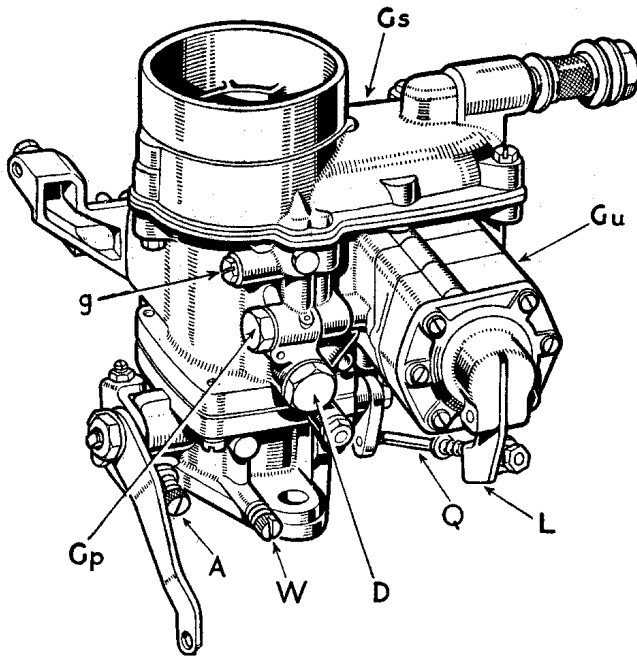

Fig. 19. Carburettor
Prior to making this adjustment it is important to ensure that the engine is in good mechanical condition; the compressions should be equal, the ignition system in order and the inlet manifold free from air leaks. The throttle "pull-off" spring must pull the throttle right back to its stop, i.e., closed position; also make sure that the volume control screw (W) has not been broken or distorted by over-tightening, in which case a replacement must be obtained. (Fig. 19).
It is most unlikely that trouble will be experienced with blocked jets, but Fig. 19 will help you to locate and remove the jets which may need cleaning. These are:-